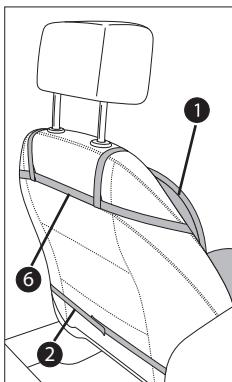

Fig. 1
- ◆ Secure the seat cushion 1 carefully using the securing straps 2 (see Fig. 1).